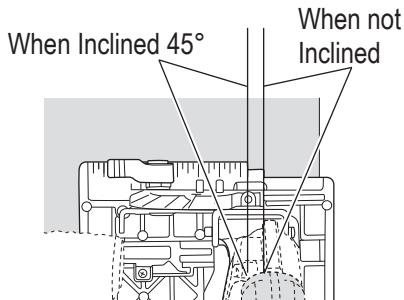
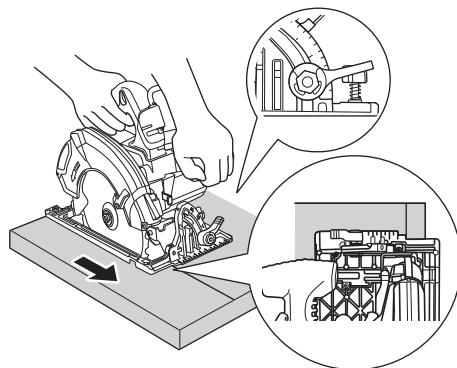
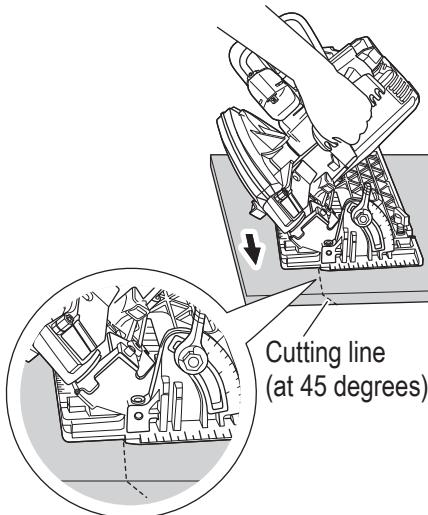

Fig. 34
Fig. 35
Fig. 36
- (1) Place the base on the material, then align the premarked line and the saw blade with the notch at the front of the base (**Fig. 34**).
- (2) When the base is not inclined, use the right side of the notch (**Fig. 34, Fig. 35**). If the base is inclined (45 degrees), use the left side of the notch (**Fig. 34, Fig. 36**).
- (4) Tilt saw forward and align the notch (**Fig. 34** on page 77) with the pre-marked guide line.
- (5) Release the lever. When the lower guard contacts the work piece surface, it will be in proper position to open freely when cutting is commenced.
- (6) Holding the saw in position, with the blade not contacting the work piece surface, pull the trigger.
- (7) After the saw has reached full speed, gradually lower rear end of the saw until its base rests on the work surface.
- (8) Advance saw along the cutting line up to the corner.
- (9) Release trigger and allow blade to stop completely before withdrawing the blade from the work piece.
- (10) Use a jig saw or hand saw to cut the corners out clean.
- (11) When starting each new cut, repeat as above.